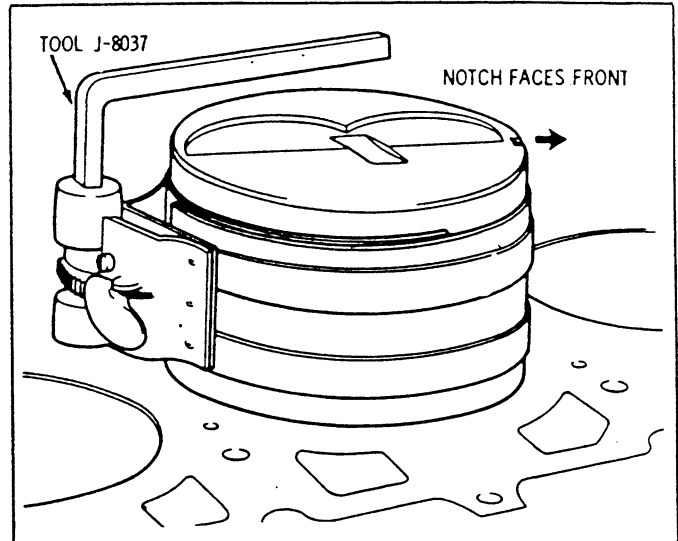

Fig. 36 Piston Installation
1. Piston and Connecting Rod Assembly, (Fig. 36).